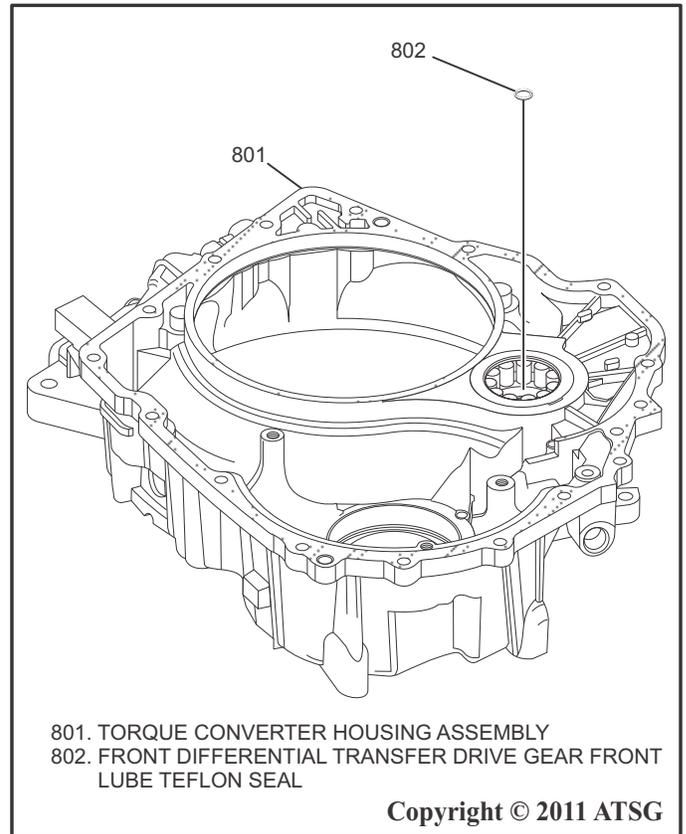

Figure 67
9. Install a new transfer drive gear front lube seal as shown in Figure 67.